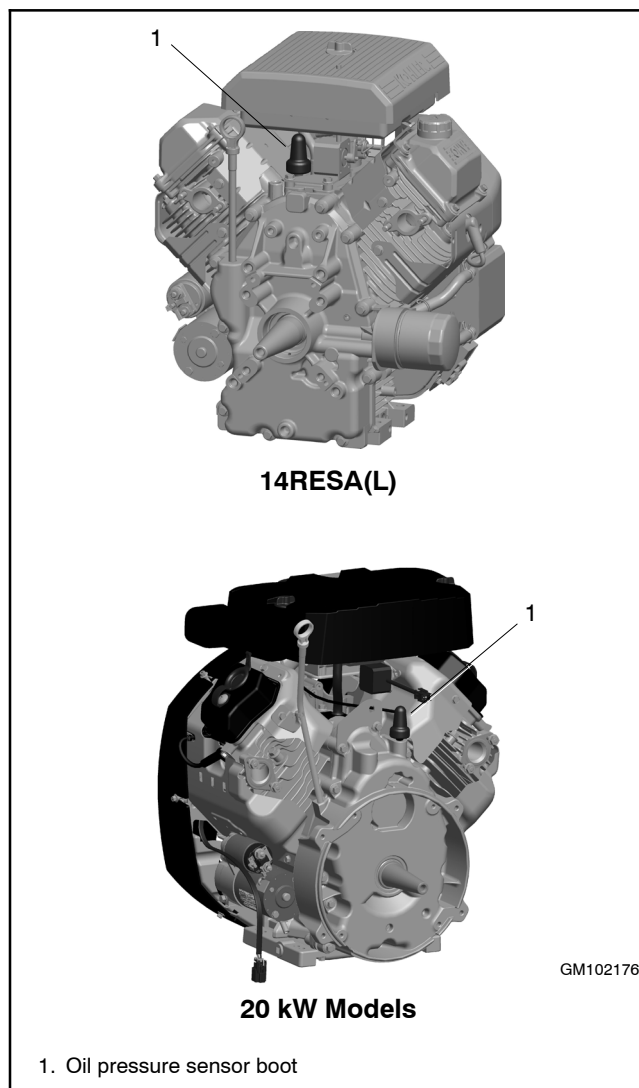

Figure 1 Oil Pressure Sensor Boot Location
The oil pressure sensor boot protects the oil pressure sensor and its connection from moisture and frost buildup that can cause false low oil level faults. Install the oil pressure sensor boot in locations where the ambient temperature drops below 0°C (32°F). See Figure 1 for illustrations of the installed kit.
6. Lift the thermal cover and find the oil pressure sensor on the engine. See Figure 1.